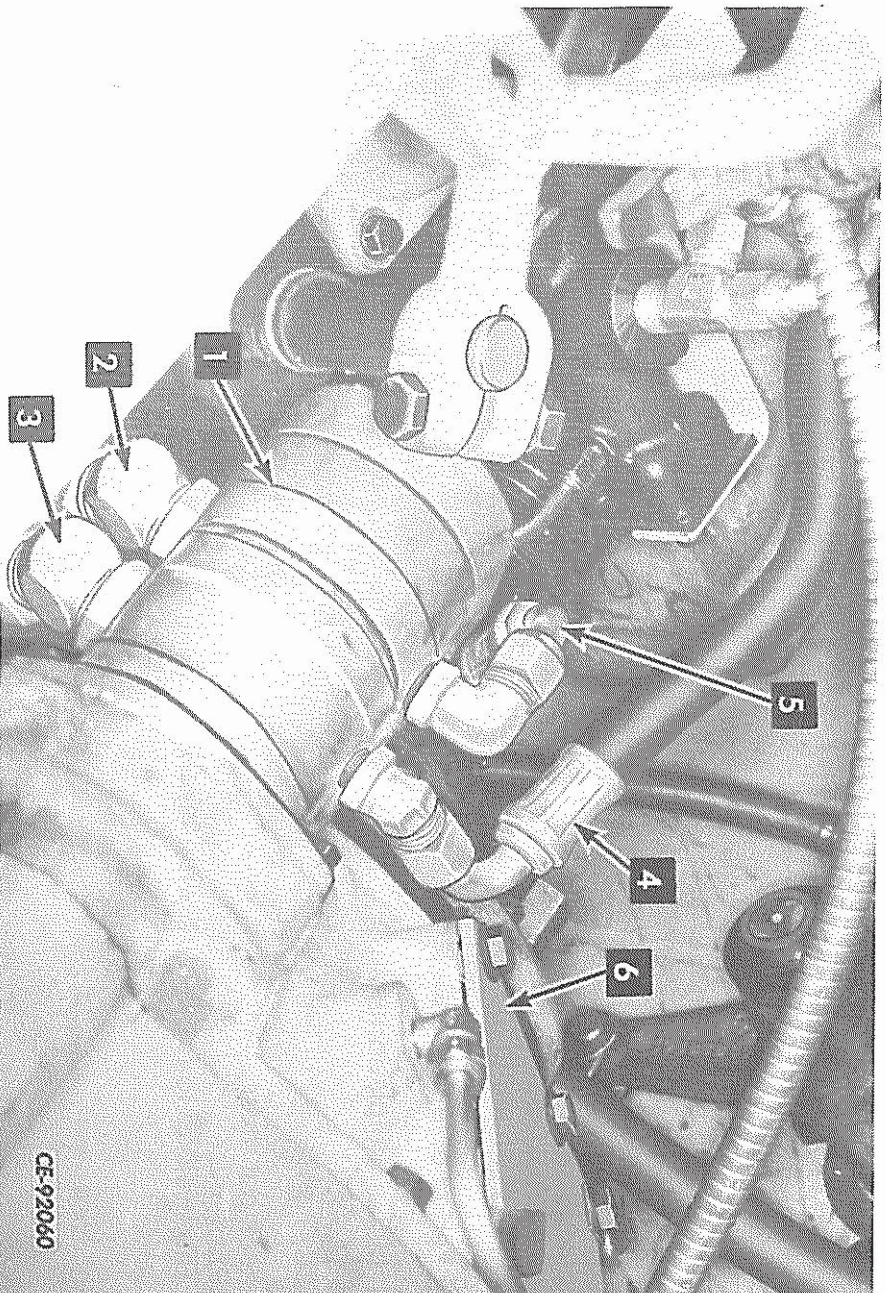

FIG. 34 — Charging Pump
10. REMOVAL (REFER TO FIG. 34)